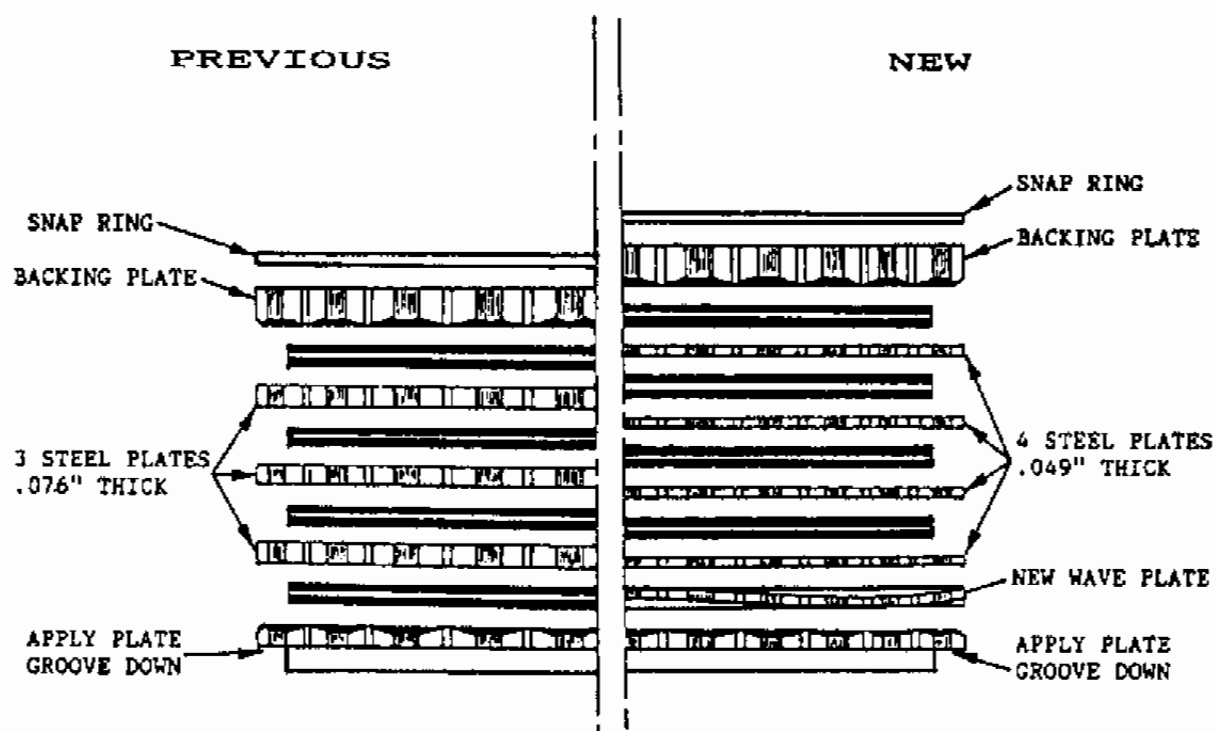

Figure36
- (3) INPUT CLUTCH STEEL PLATES - The steel plates are .027" thinner to help accomodate the added wave plate (See Figure 36). The new steel plates are .049" thick, and the old steel plates are .076" thick (Figure 36).
- (4) INPUT CLUTCH "STACK-UP" - The input clutch stack has also been revised to accomodate the new changes. Refer to Figure 36 for proper assembly of the new input clutches.